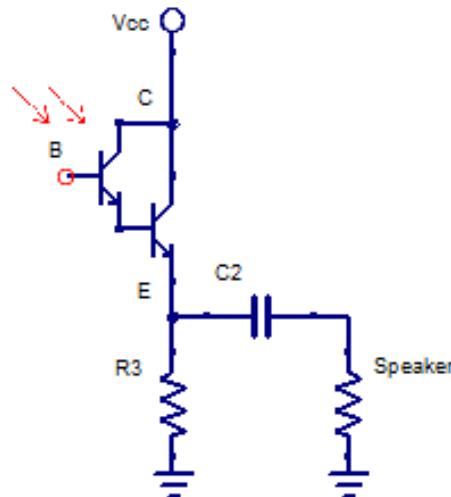

Figure 4: Receiver Circuit
- a. Study the data sheet for your photo-transistor and find out if it can respond to the LED light wavelength. Also, figure out which pin corresponds to base (B), emitter (E) and collector (C). (*Base, emitter and collector are components of a bipolar transistor: photons that are detected by the base modulate the current between the emitter and the collector*).
- b. Build the receiver circuit according to the schematic shown in Figure 4. You can assume $V_{cc} = 3V$ (please use two AA batteries), $R_3 = 100\Omega$ (though anything in the range $30 - 300\Omega$ would do), $C_2 \geq 100\mu F$ (anything in the